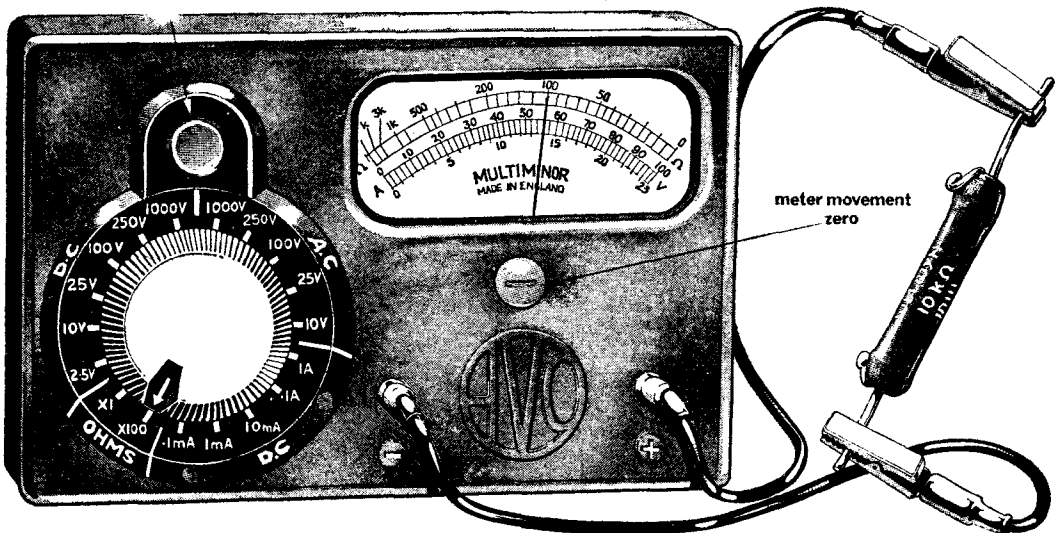

Fig. 2. Multimeter CT511
- b. If necessary, zero the meter movement (see Fig 2).